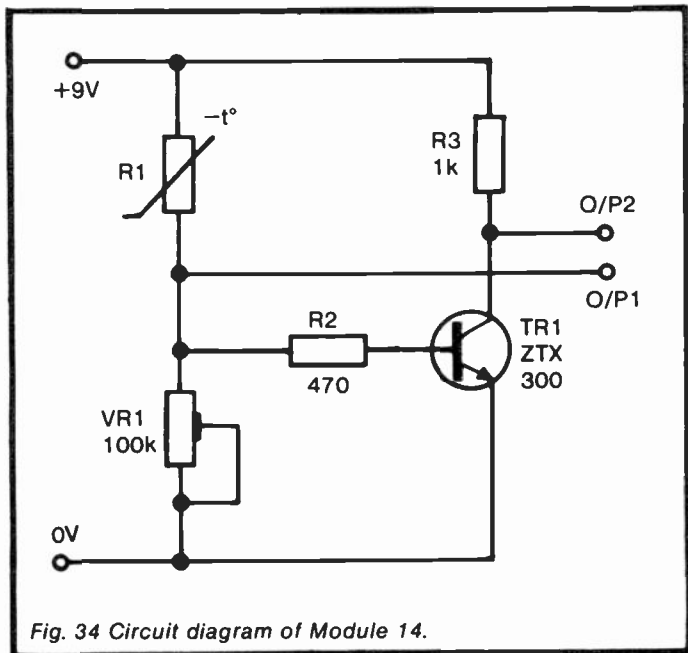

Fig. 34 Circuit diagram of Module 14.
*Circuit diagram:* see Figure 34.